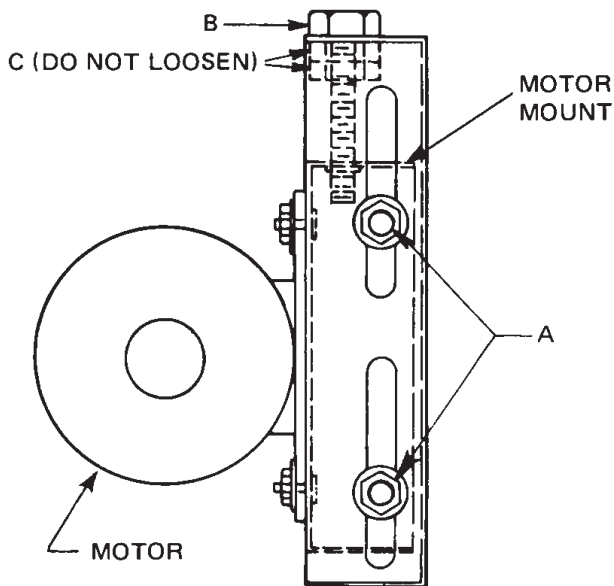

FIG 6 - TYPICAL MOTOR MOUNTING ASSEMBLY
3. The tension on the belt should be adjusted for a deflection of $\frac{3}{16}$ " (5mm) per foot (305mm) of belt span with an applied force of approximately 3 lbs (1.4kg). This adjustment is made by moving the blower motor mounting plate. Refer to Figure 6. Turning the adjustment bolt (B) moves the motor mounting plate up or down. Note - Never loosen the two nuts (C). Four hex nuts (A) have to be loosened to move the mounting plate and retightened after the mounting plate has been moved to the proper position.